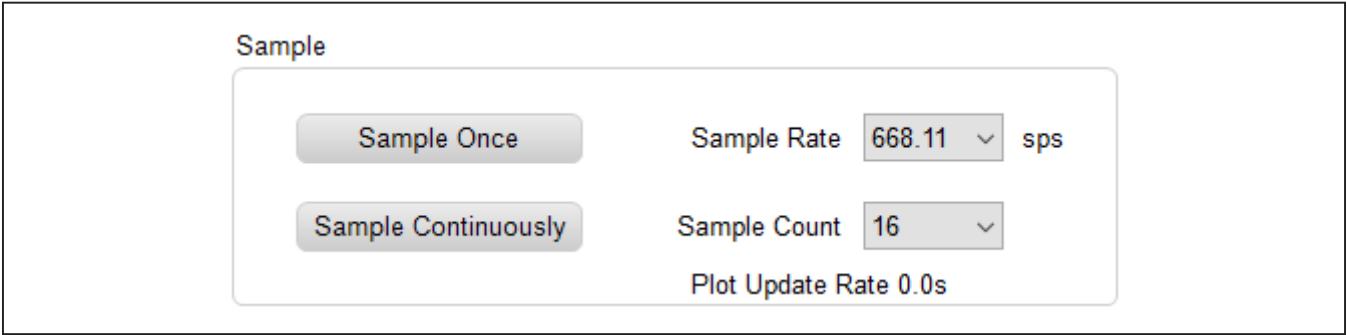

Figure 6. Example Sample Settings
- 13) In the **Sample** box, set the **Sample Rate** and **Sample Count**. Example values are shown in Figure 6.